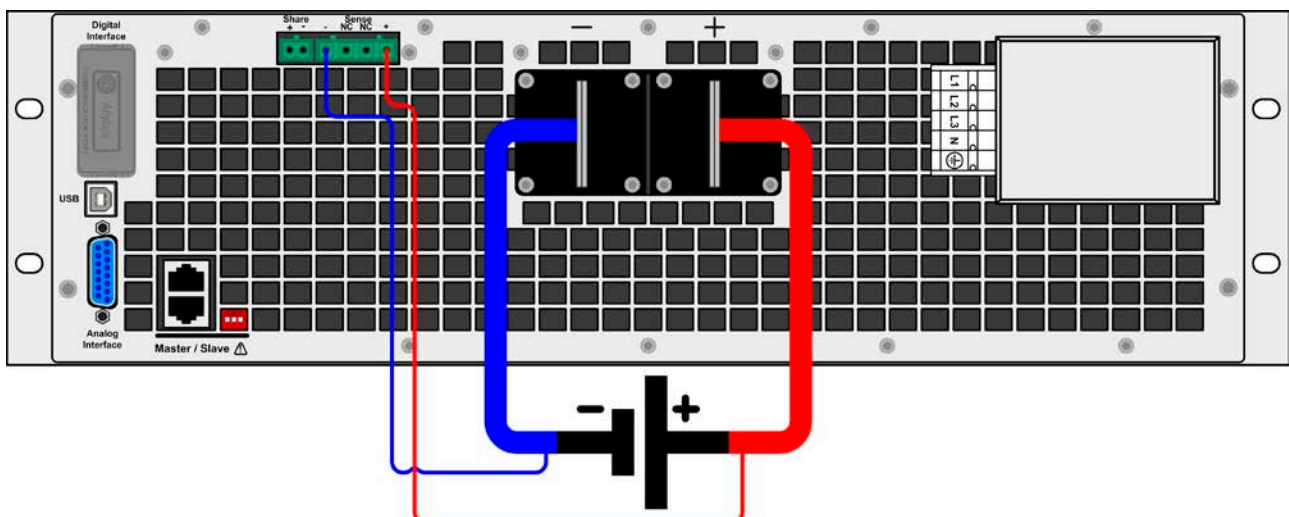

Figure 10 - - Example for remote sensing wiring
- Remote sensing is only effective during constant voltage operation (CV) and for other regulation modes the sense input should be disconnected if possible, because connecting it generally increases the oscillation tendency.
- Sensing cables must be connected + to + and - to - at the source, otherwise the sense input of the electronic load can be damaged. For an example see Figure 10 below.